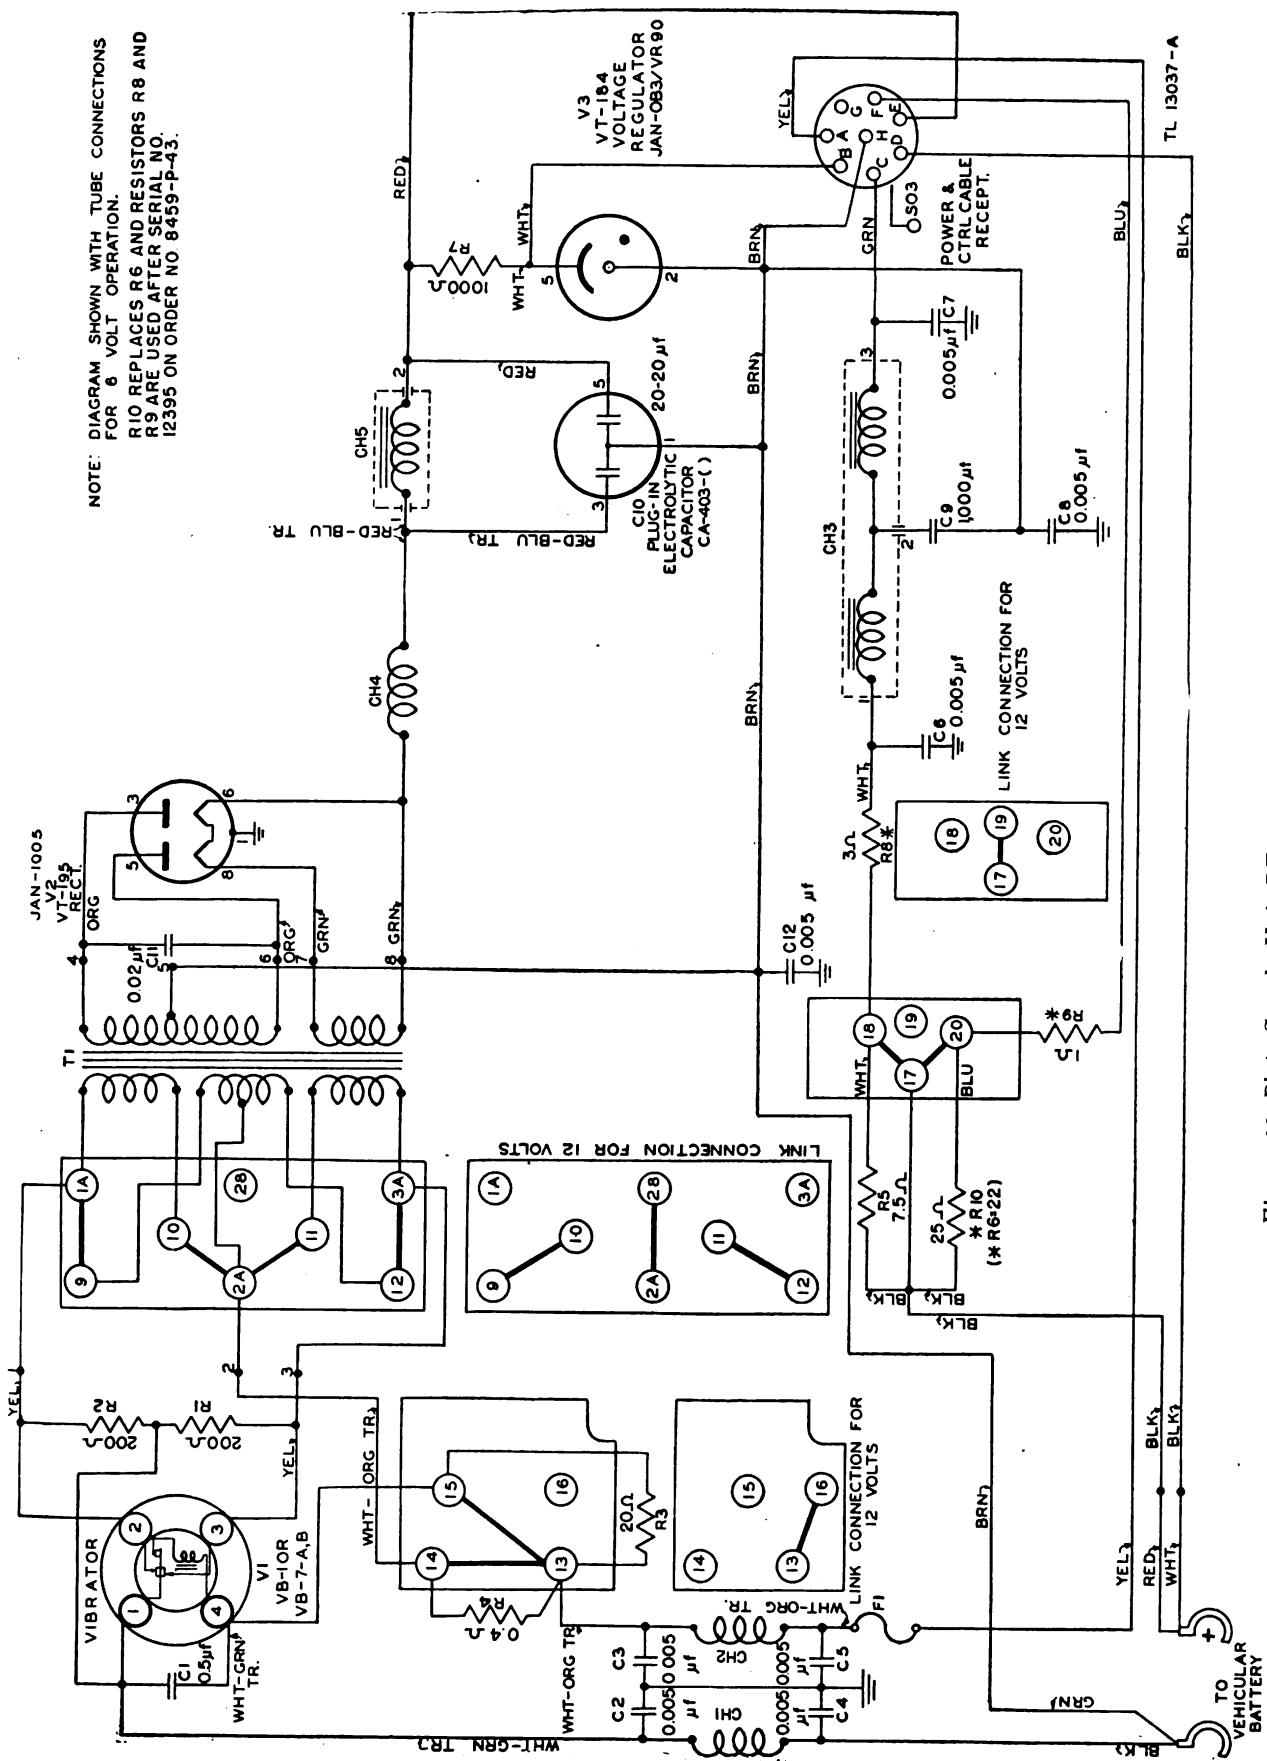
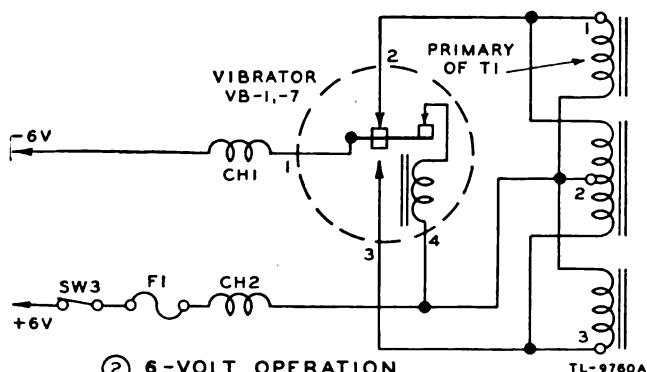

Figure 66. Plate Supply Unit PE-117-C, schematic diagram.
Figure 67. Plate Supply Unit PE-117-C, simplified transformer primary connections.
a. VIBRATOR VB-7-A (OR VB-7-B). Figure 66 illustrates the circuit of the power unit with its link controls set for 6-volt operation. The storage battery input to the power units controlled by switch SW3 on the receiver-transmit-
ter front panel. This switch completes the power circuit through pins D and A of the connecting plug. The vibrator circuit is protected by 6-ampere fuse F1. To prevent interference from the vibrator, the leads to the vibrator are filtered by chokes CH1 and CH2 and capacitors C2, C3, C4, and C5. The vibrator is a four-prong, full-wave, nonsynchronous type. In operation, the vibrator connects the battery voltage alternately from the center tap to first one-half, then the other half of primary transformer T1. The transformer primary consists of two 6-volt windings and one center-tapped 12-volt winding. Figure 67 illustrates the primary coil connections for 6- and 12-volt operation. When the set is operating from a 6-volt storage battery, the 6-volt windings and half of the 12-volt winding are connected in parallel across the battery. When the set is operating from a 12-volt storage battery, one of the 6-volt windings and half of the 12-volt winding are alternately connected in series across the battery as the vibrator armature swings from one contact to another. Capacitor C1 and resistors R1 and R2 (fig. 66) reduce sparking at the vibrator points. The windings of transformer T1 can be so arranged by the connecting links on the power-pack terminal board that either a 6- or a 12-volt supply may be used. Resistor R4 limits the current in the primary of vibrator-transformer T1 during 12-volt operation. The actuating coil of the vibrator is wound for 6 volts; when 12 volts are used, resistor R3 acts as a voltage-dropping resistor. There are two secondary windings on vibrator-transformer T1. One winding (with terminals 4 and 6) supplies the high a-c voltage to the plates (prongs 3 and 5) of rectifier Tube JAN-1005. The other winding (with terminals 7 and 8) supplies the alternating current (a-c) voltage for the filament (prongs 6 and 8) of rectifier Tube JAN-1005. Capacitor C11 is a buffer which absorbs voltage surges, thereby improving the waveform of the rectified current and reducing interference in the receiver.
*Note.* This capacitor is rated at 1,600 volts (working). If defective, it must be replaced with one of equal rating. The frequency at which Vibrator VB-7-A (or VB-7-B) applies potential to the primary winding of T1 is determined by the mechanical resonance of the reed in the vibrator unit. The vibrator is actuated by a coil which has its own independent contact on the vibrating reed (fig. 67).